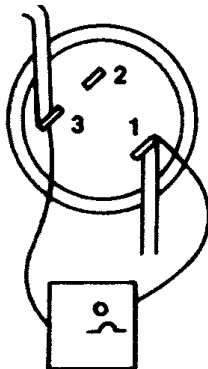
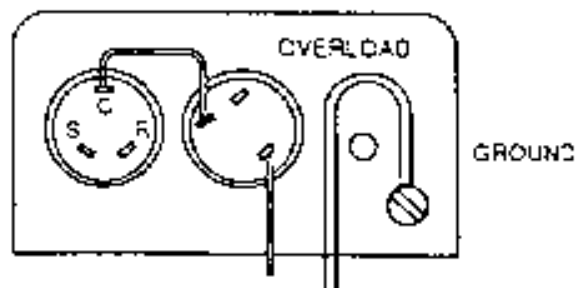

FIGURE 10. OVERLOAD CHECK
FIGURE 11. COMPRESSOR CHECK
OVERLOAD CHECK - FIGURE 10
COMPRESSOR CHECK - FIGURE 11
3. Check terminals 1 and 3 on overload. No continuity replace overload. Use a volt-ohm meter. See FIGURE 10 and FIGURE 11.